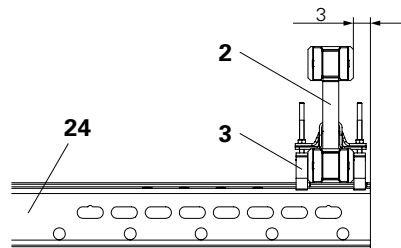
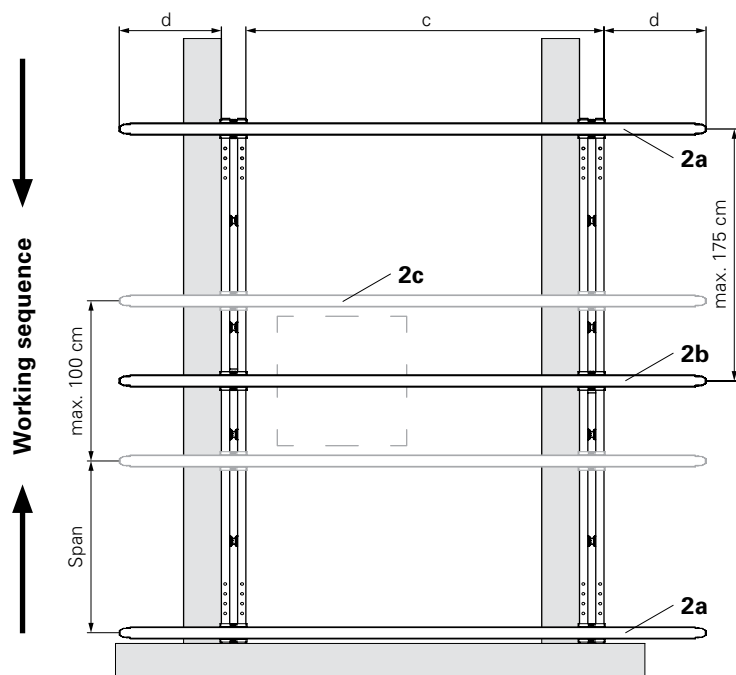

Fig. B5.02
Fig. B5.03
2. Place the two outer girders (**2a**) on the Steel Waler SRU (**24**). The distance of the girder to the edge is 3 cm. (Fig. B5.02) The overhang d is the same on both sides. (Fig. B5.03)
(Fig. B5.03)
- Planking span ≤ 1.75 m. Compare DIN EN 12811-1. (Fig. B5.03)